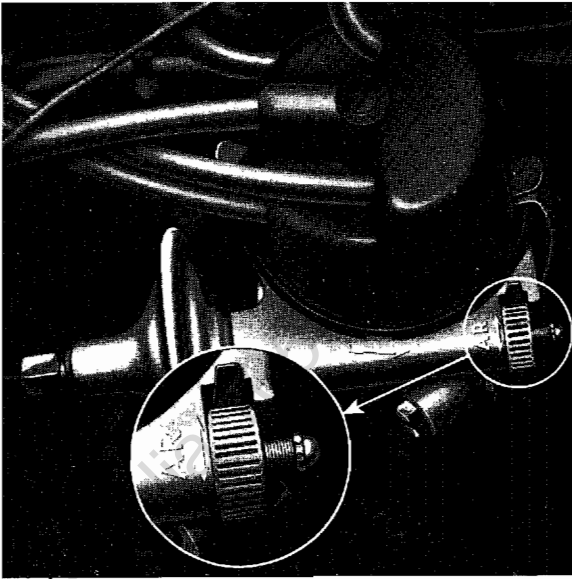

Fig. 13
- (c) If heavy pinking occurs, **retard** the ignition (see Fig. 13) until a trace pink can just be heard under these conditions of acceleration.